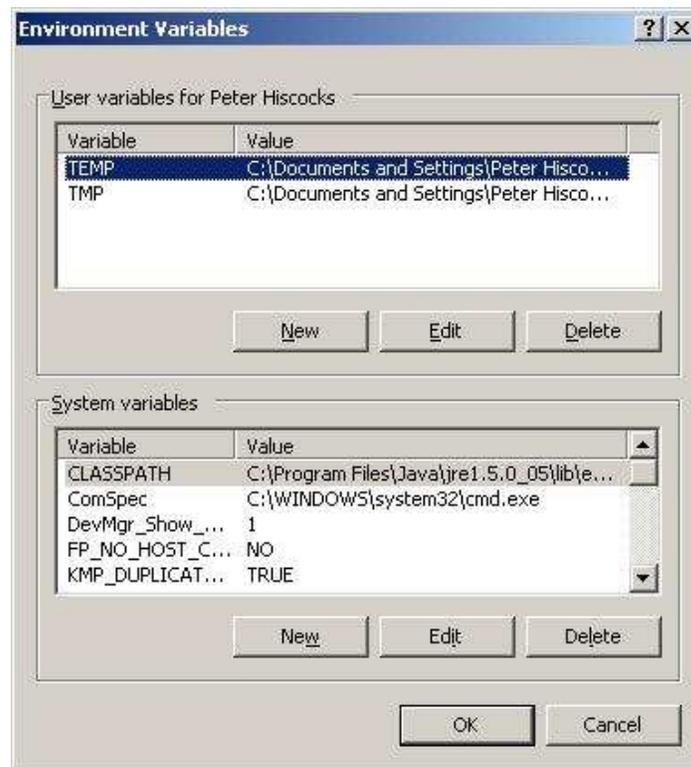

Figure 4: Environment Variables
2. Go to `Properties > Advanced > Environment Variables` (at the bottom of the panel, figure 4).